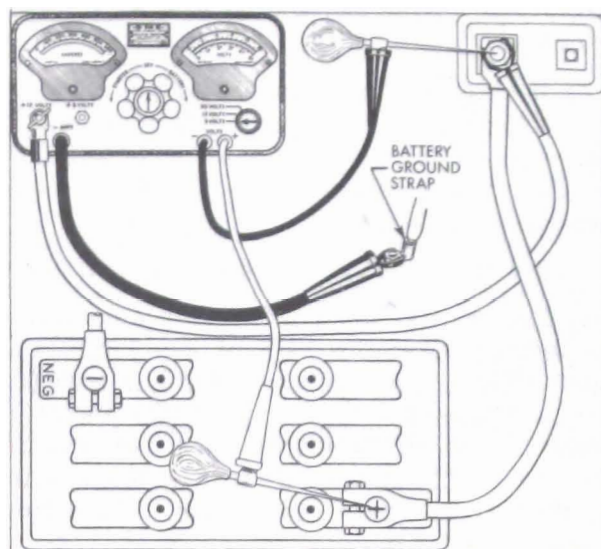

Figure 10-5—Battery Cable Test Connections
2. Connect ammeter positive (+) lead to battery terminal stud on junction block. Connect ammeter negative (-) lead to one side of rheostat and connect other side of rheostat to ground on engine, preferably at point where battery ground strap is attached. In the instrument shown in Figure 10-5 the ammeter and rheostat are connected in series inside the case.
3. Connect voltmeter negative (-) lead to battery terminal stud on junction block. Use a prod with voltmeter lead, if necessary, to insure direct contact with the terminal stud. Do not connect to the ammeter lead clip. Attach a prod to voltmeter positive (+) lead and apply the prod to center of battery positive (+) post (Fig. 10-5). Make sure that clips of voltmeter leads have clean metal contact with prods.